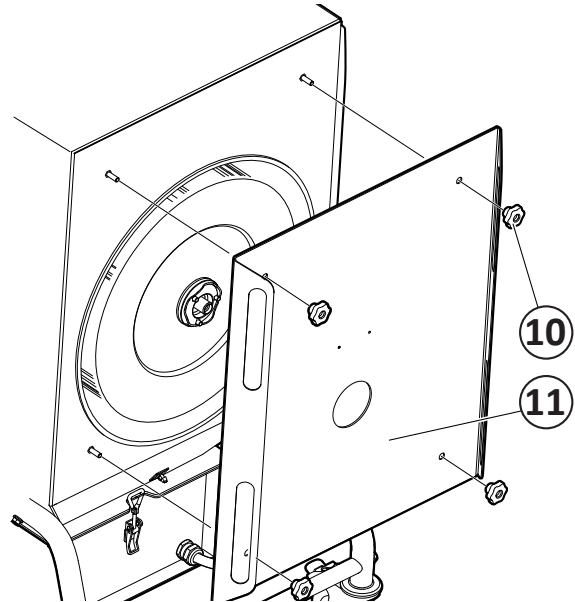

Fig. 20
5. Unscrew the lock nuts (6) for the cover plate (7).
6. Remove the bearings (8).
7. Unscrew the knobs (10, **Fig. 20**) and remove the filter cover (11).
5. Refit and secure the filter cover (10, **Fig. 20**) on the chassis. Check that the filter cartridge is centred on the hole in the filter cover and that the seal between the cover and chassis correct.
11. Refit and secure the filter cover (10, **Fig. 20**) on the chassis. Check that the filter cartridge is centred on the hole in the filter cover and that the seal between the cover and chassis correct.